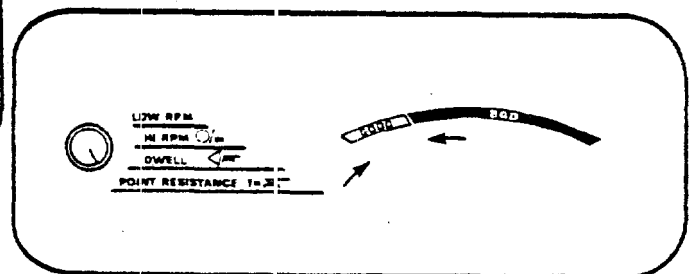

FIGURE 3 - TEST SELECTOR AT POINT RESISTANCE POSITION
a. Turn the test selector to the POINT RESISTANCE position (See Figure 3).